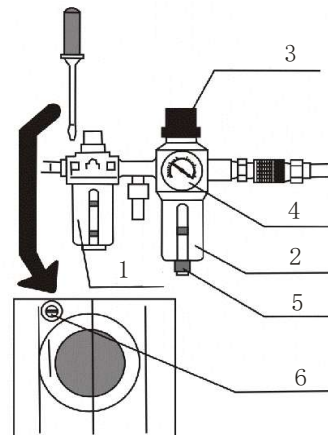

Fig. 9
- *As in Fig. 9: 1-Atomized lubricator; 2-Oil water separator; 4-Gas-pressure meter.
- Gas circuit system: Please connect the inflate gun A to the upper connector of the three direct links on the Atomized lubricator, then hang on the hook on the column.(Fig.9). Connect the external air source to the parallel direction connector of the Atomized lubricator S(as the arrow show on Fig. 9)